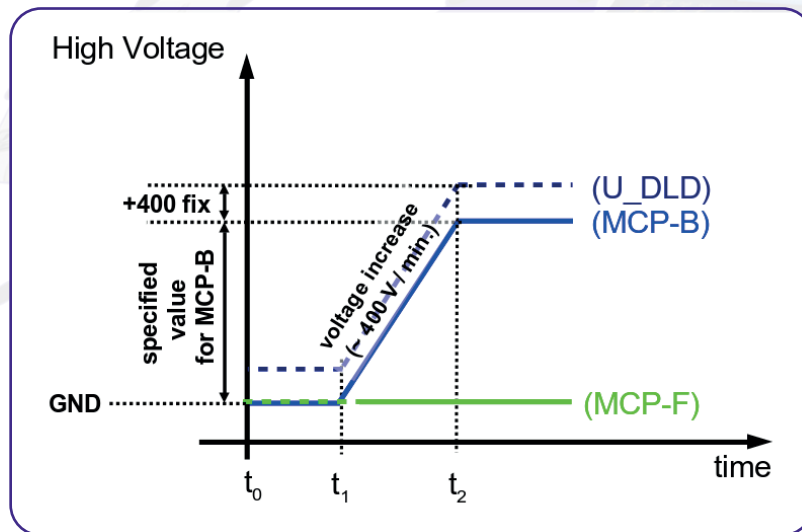

Figure 3: Schematic sketch on voltage ramping during “Start-Up” procedure.
- Turn on the high voltage carefully. The voltage increase should not exceed 400V per minute. A schematic sketch on how to ramp the voltages during the “Start-Up” procedure is given in **Figure 3**. The starting operation voltage is specified in the specification sheet of the detector.